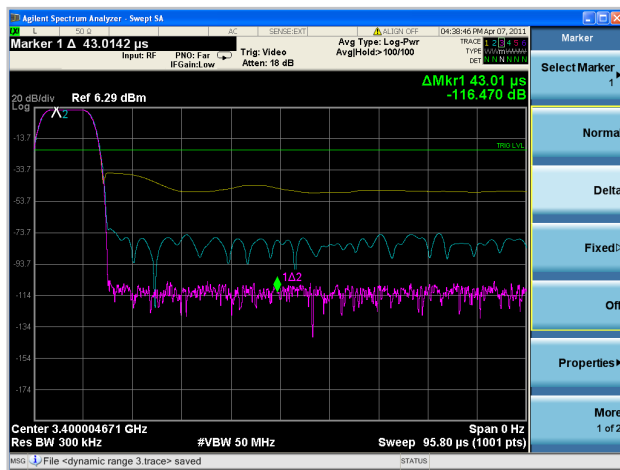

Figure 4. In this example, the system achieves a pulse on/off ratio of 116 dB (see delta marker readout at upper right of trace)
- Delivers on/off ratios of greater than 100 dB by using AWG markers to drive the PSG (Figure 4)